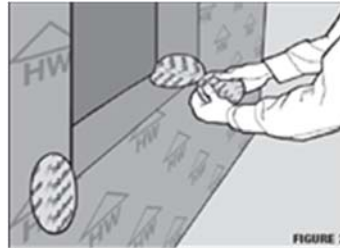

Figure 2
2.1.1 Remove backing from pre-cut QUAD Window and Door System corner guard and position a guard at each jamb and sill intersection so that ½ of the guard is covering the flat sill and jamb and the remaining half is pulled out over the exterior sheathing (Figure 2).